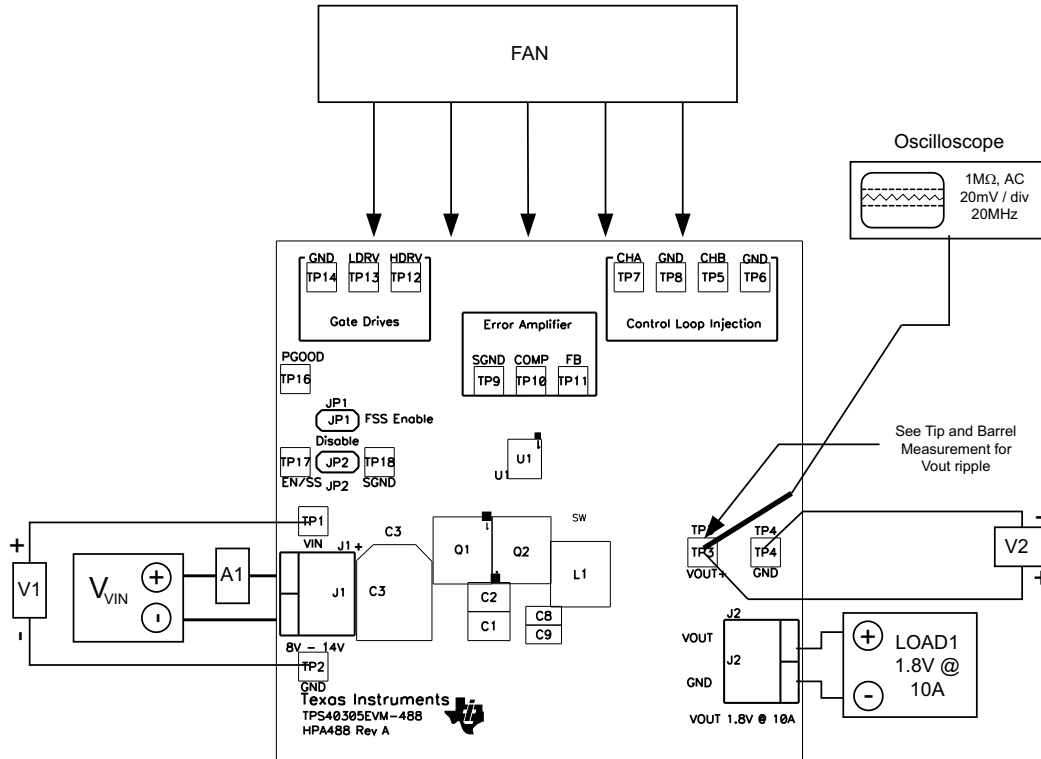

Figure 5-1. TPS40305EVM-488 Recommended Test Setup
Shown in Figure 5-1 is the basic test set up recommended to evaluate the TPS40305EVM-488. Note that although the return for J1 and JP2 are the same system ground, the connections should remain separate as shown in Figure 5-1.
2. Prior to connecting the DC input source, V_{IN} , it is advisable to limit the source current from V_{IN} to 3.0-A maximum. Make sure V_{IN} is initially set to 0 V and connected as shown in Figure 5-1.
3. Connect V_{IN} to J1 as shown in Figure 5-1.
4. Connect ammeter A1 between V_{IN} and J1 as shown in Figure 5-1.
5. Connect voltmeter V1 to TP1 and TP2 as shown in Figure 5-1.
6. Connect voltmeter V2 to TP3 and TP4 as shown in Figure 5-1.
- Place the fan as shown in Figure 5-1 and turn on making sure to blow air directly across the evaluation module.